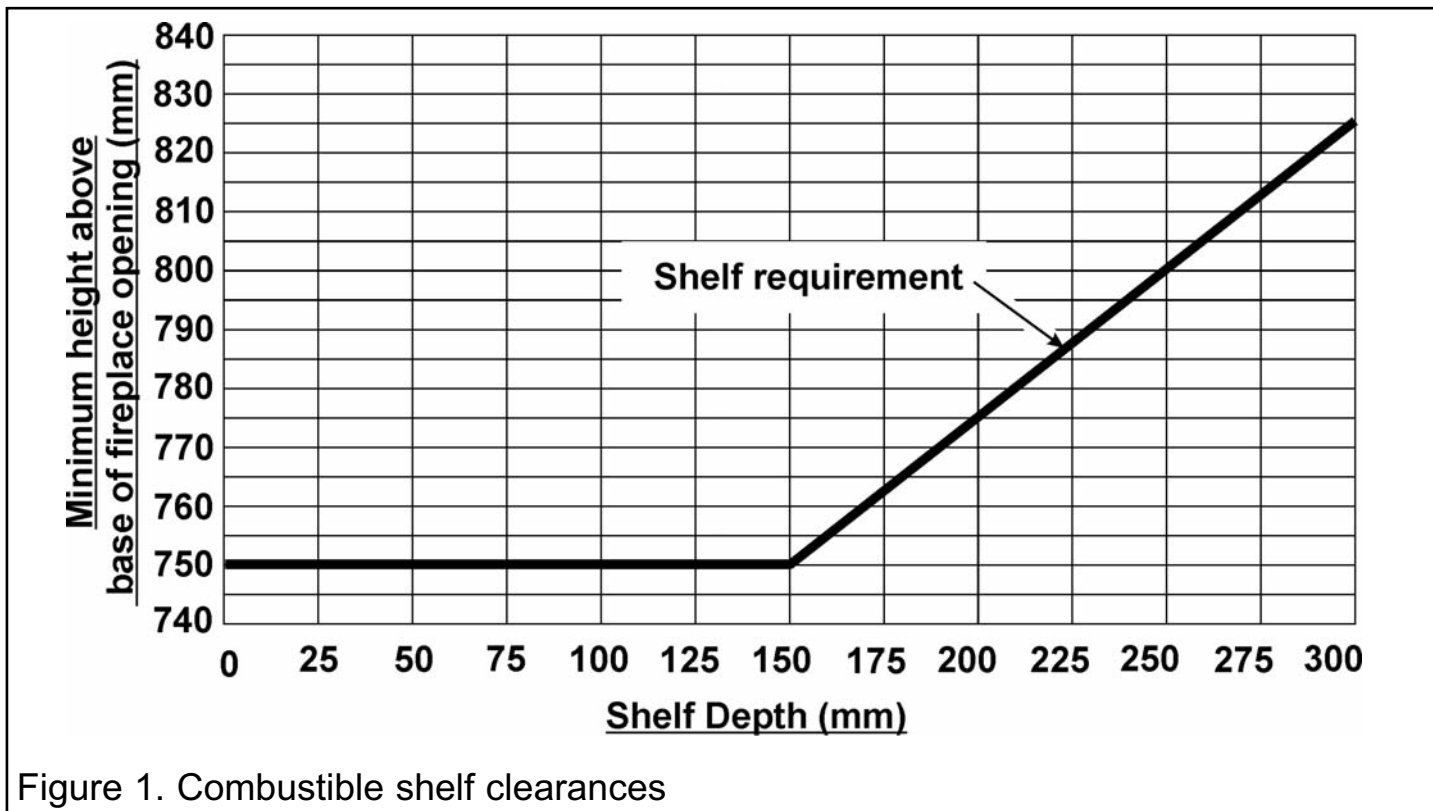

Figure 1. Combustible shelf clearances
**Do** provide a minimum clearance of 750mm from the base of the fireplace opening to any shelf made of wood or other combustible material where the shelf is not more than 150mm deep. For a shelf deeper than 150mm, add 12.5mm to the clearance for every 25mm of additional shelf depth (See figure 1).